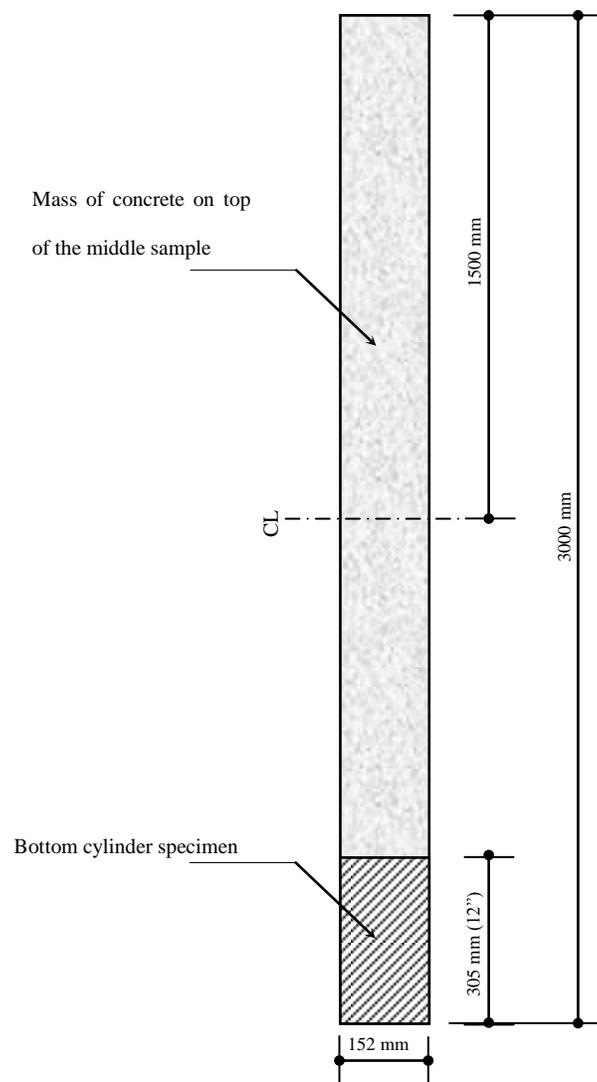

Figure B3: Position of the 6 (diameter) by 12 (height) inch bottom concrete samples along the length of a 3 meter high concrete column
2. To find the necessary mass value on the bottom sample (Figure B3), following calculations were made. Considering the total height of the column as 300 mm: